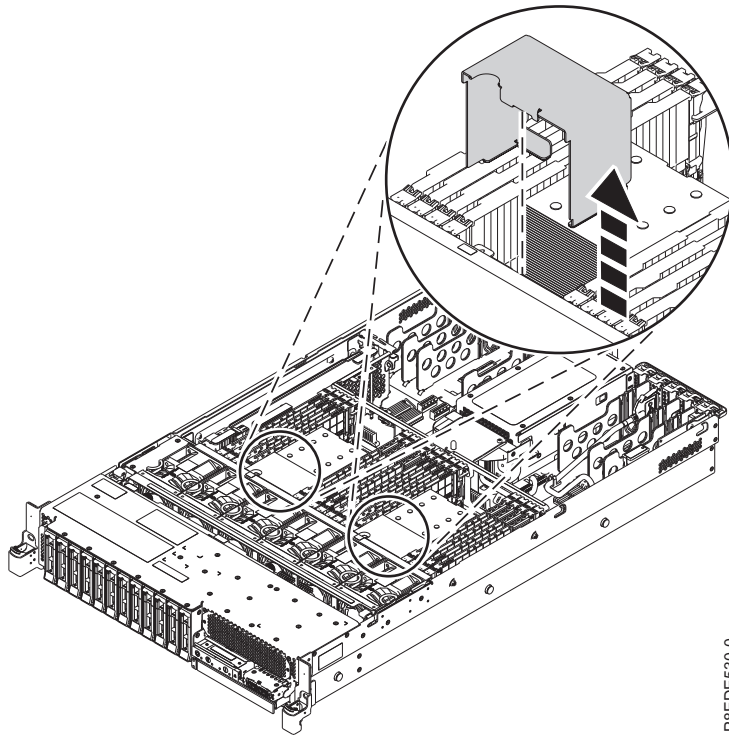

Figure 3. Removing the air baffle
3. Remove the air baffle by grasping the baffle and lifting it out of the system as shown in Figure 3.